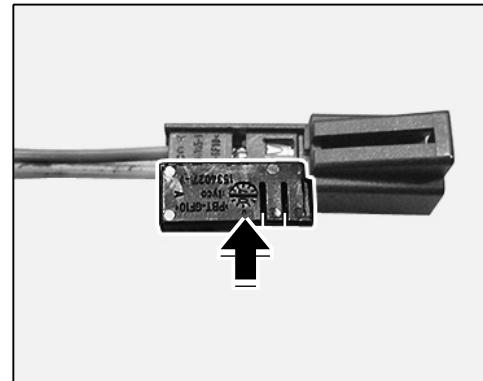

Figure 12
2.3.4 Fit secondary lock and lock it ⇒ *Figure 12-arrow-*.